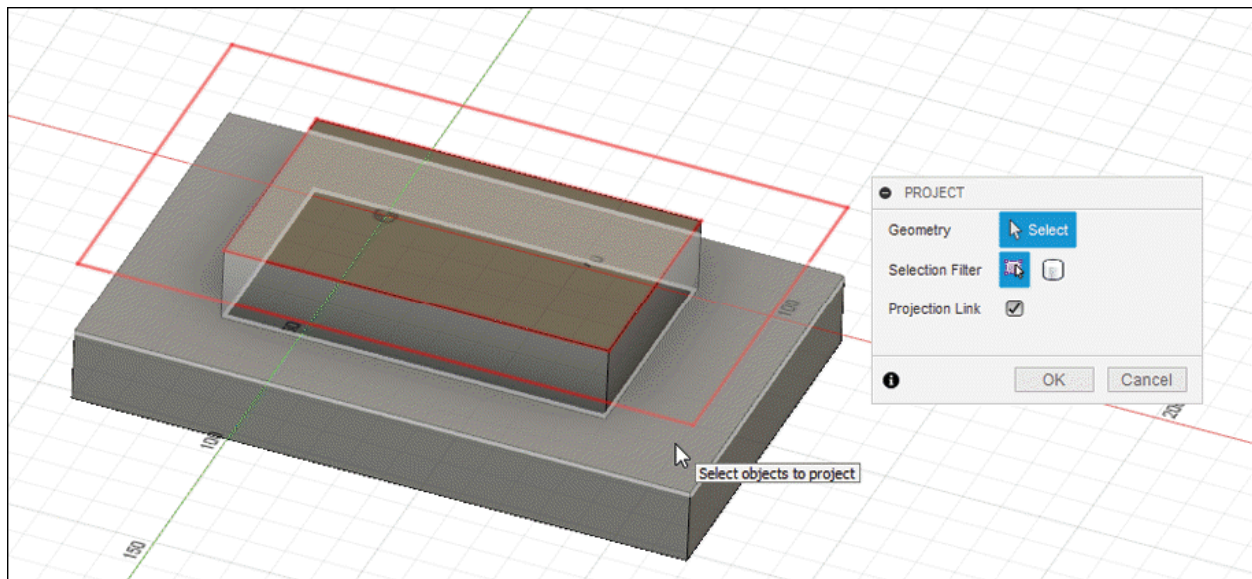

Figure-146. Preview of projected geometry
- Hover the cursor at desired geometry. Preview of project feature will be displayed; refer to Figure-146.